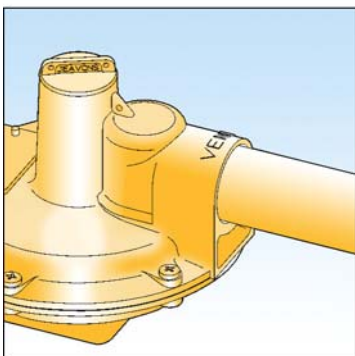

Fig. 3
11. Connect the vent line (1"), using a jointing compound approved to national standards, and lead to atmosphere in accordance with national standards. Ensure that no water can penetrate vent pipeline. See Fig. 3.